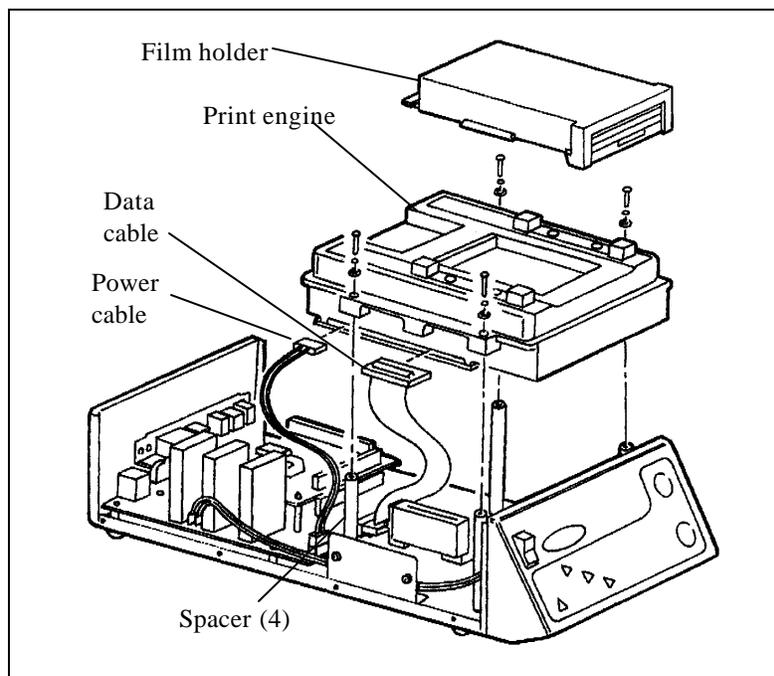

Figure 4- 2 Removing the print engine
3. Locate and disconnect the ribbon data cable from its connector on the print engine. (Note that the connector has two clips which must be opened to allow the ribbon cable to be removed.) (Figure 4- 2)